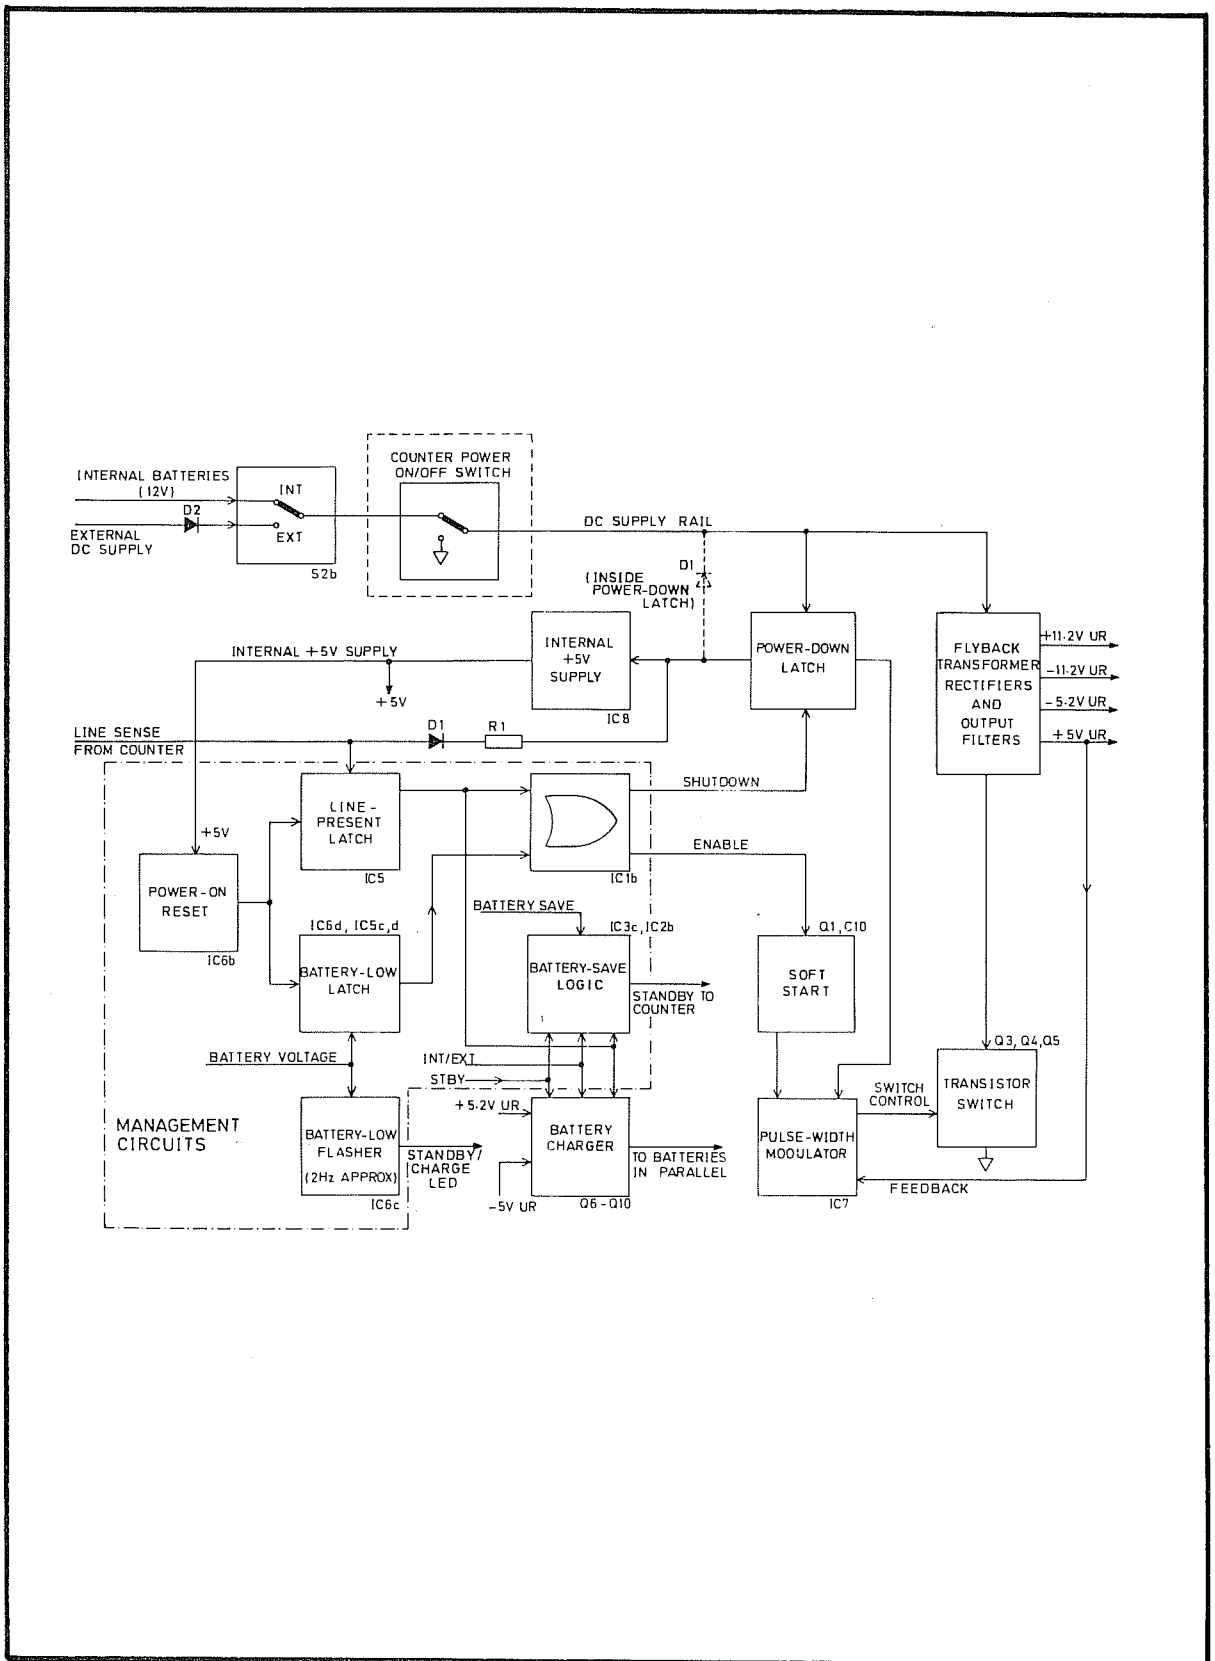

Fig 6.13 The Battery Pack
- 145 In the block diagram of the option, shown in Fig 6.13, direct current, from either the internal battery pack or an external DC supply, passes through the primary of the flyback transformer and through a transistor switch to ground.